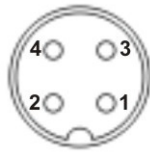

Figure 3-15: Power Input Connector
Step 2: Insert the RJ-45 connector. Insert the RJ-45 connector on the RJ-45 to DB-9 COM port cable to one of the RJ-45 RS-232 connectors on the TANK-870-Q170 Series. See **Figure 3-15**.